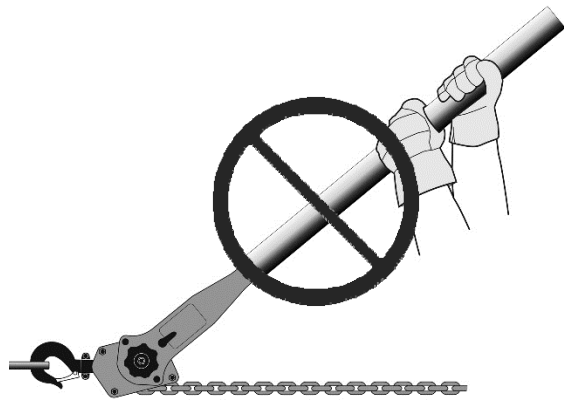
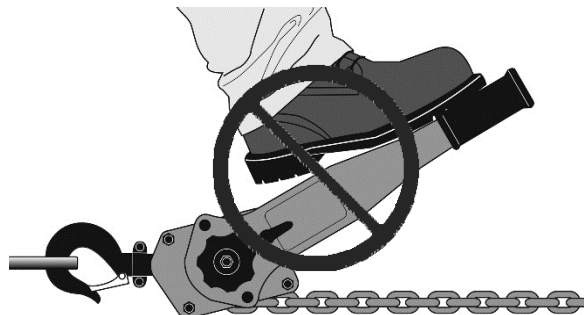

Figure 7
Figure 8
- Do not use any extension on the lever handle (Figure 7). Do not use your foot to apply pressure to the lever handle (Figure 8).